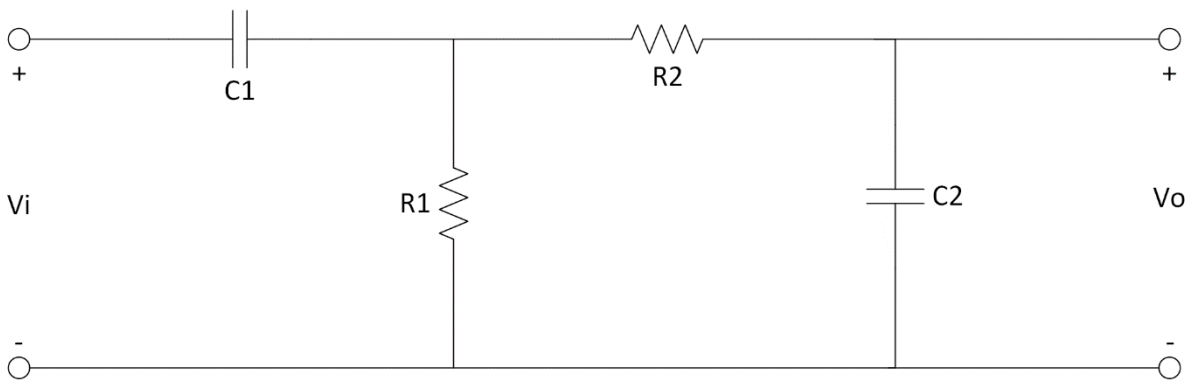

Figure 7.3
3. For Fig. 7.3, do your theoretical calculations and roughly sketch the frequency response ($|H(j\omega)|$) and phase ($\angle(j\omega)$). Compare your theoretical and simulated results, and comment on differences.
3. Build the circuit given in Fig.7.3. ($R_1=47k\Omega$, $R_2=1k\Omega$, $C_1=10nF$, $C_2=10nF$) Set the peak-to-peak voltage of the input as $V_{p-p}=1V$ and measure V_o and phase at frequencies given in Table 3. Find the upper and lower cut-off frequencies for the filter. Fill the table and sketch the frequency response (in dB) and phase.